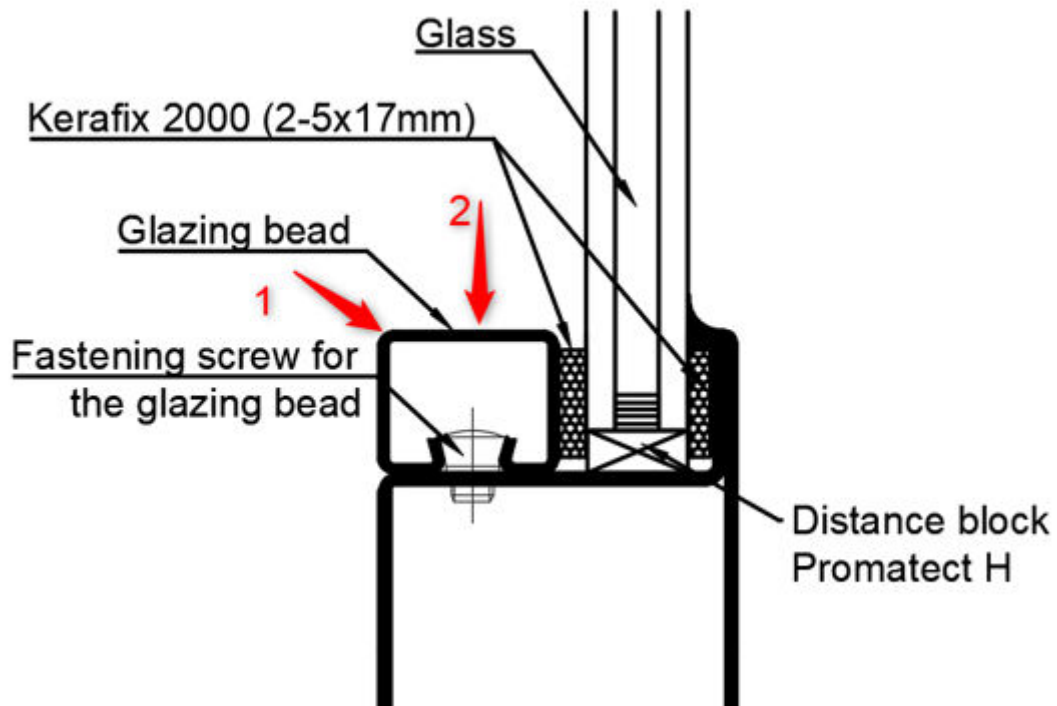

FIGURE 5
- First, install the horizontal glazing beads and then vertical beads between them. To fasten the glazing bead, hit the bead's outer corner with a rubber hammer or a wood block (in the direction marked by arrow 1 on the Figure 5) above the screw fastening on the base of the bead. Start fastening the bead from one end of the bead and continue towards the other end. Make sure that the glazing bead is fastened correctly on the screws and that there is no gap
between the bead and the profile. If necessary, hit the bead gently above the fastening screw in the direction of the screw's axis (in the direction marked by arrow 2 on the Figure 5).